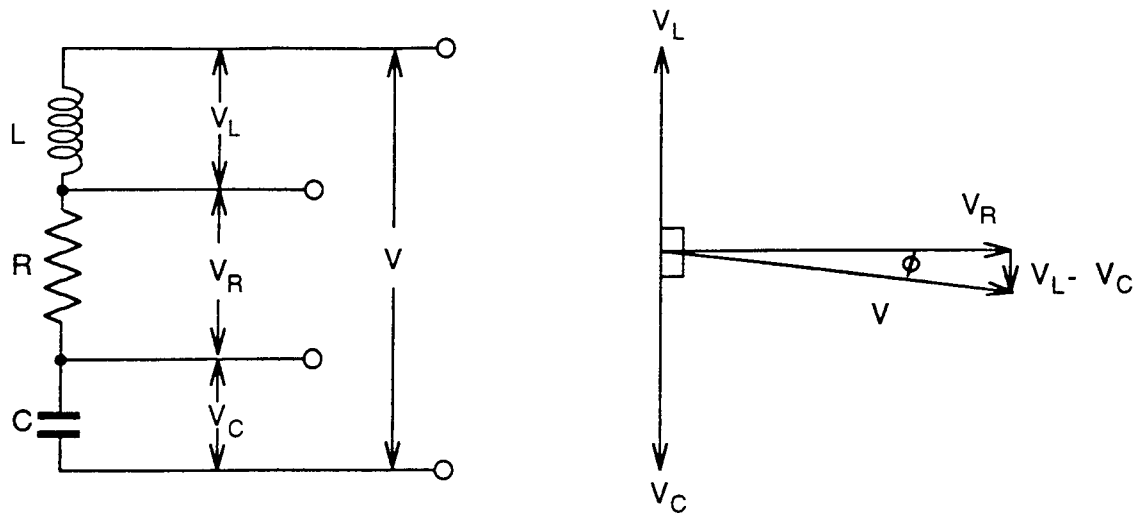
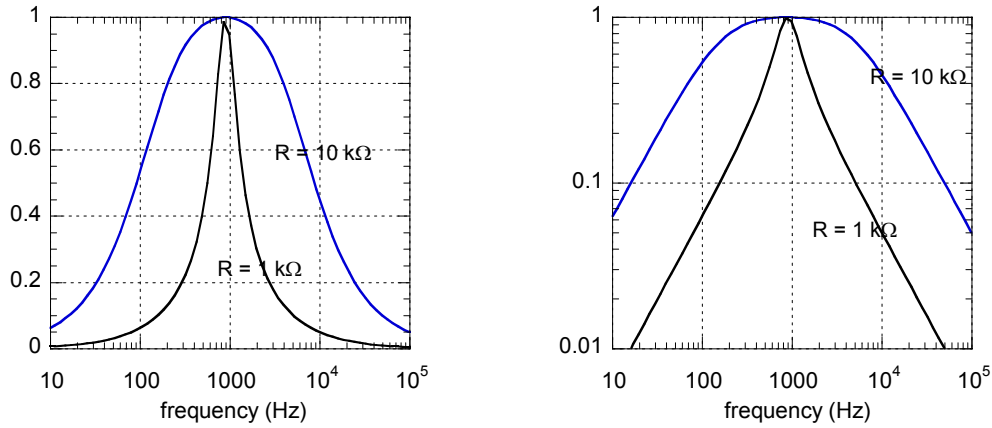

Figure 11-2. Series RLC circuit and voltage relationships.
Figure 11-4. Frequency response of RLC resonance circuit, from Eq. 11.19.
The quantity V is the applied voltage and at all times must be the vector sum of V_L , V_R , and V_C . For our diagram in Figure 11-2, we have chosen the particular time for which the voltage across the resistor (V_R) is taken to have zero phase angle. This is convenient because this voltage is in phase with the current throughout the circuit. Thus we have a "snapshot" of all the voltages at a particular instant. As time progresses, these rigid vectors can be thought of as rotating, and it is their projections on the y axis which are the sinusoidally varying quantities which we see on an oscilloscope. (You may want to read through this last paragraph again.)
Figure 11-2 can also be used to obtain the phase angle between the voltage V (which might be the applied function generator voltage) and any of the other voltages. Between V and V_R the phase ϕ is seen to be
Here will find the voltage across the resistor, V_R , as a function of frequency, for the RLC circuit shown in Figure 11-2. In the experiment will plot these quantities, and you will find a resonance, as shown in Figure 11-4.
This expression is plotted in Figure 11.4.
7. Using computer software such as “Graphical Analysis”, plot V as a function of frequency. Include all the data from steps 4 –6, using two separate columns for $R = 1\text{ k}\Omega$ and $R = 10\text{ k}\Omega$. Make a plot, as shown on the left side of Figure 11-4, with a linear vertical axis and a logarithmic frequency axis.